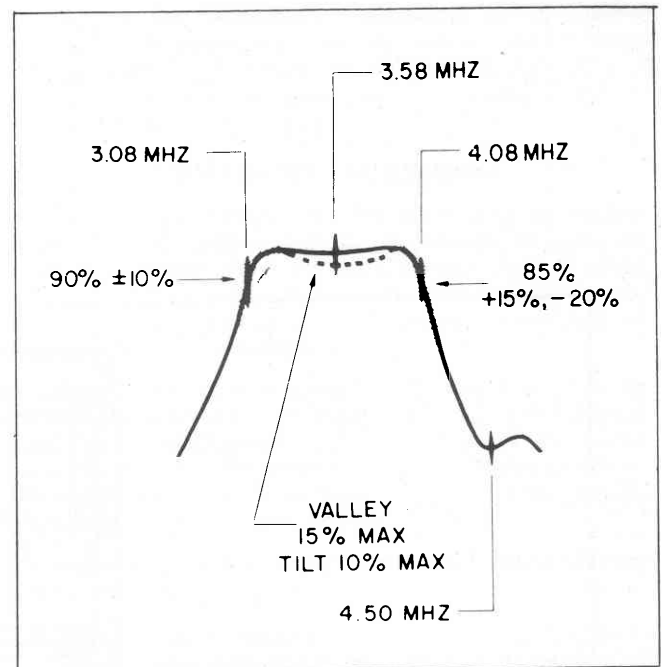

Fig. 31. Typical chroma response curve, showing tolerance ranges of response levels.
6. A response curve similar to that shown in Fig. 31 should be seen. Select the marker generator frequencies of interest. Refer to the manufacturer's instructions for bandpass specifications and alignment procedure.